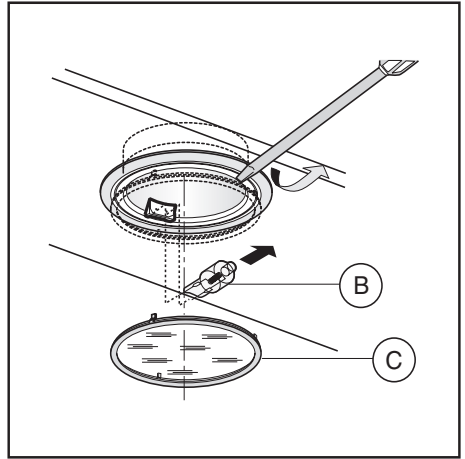

Fig.13
• Replacing halogen light bulbs (Fig. 13).